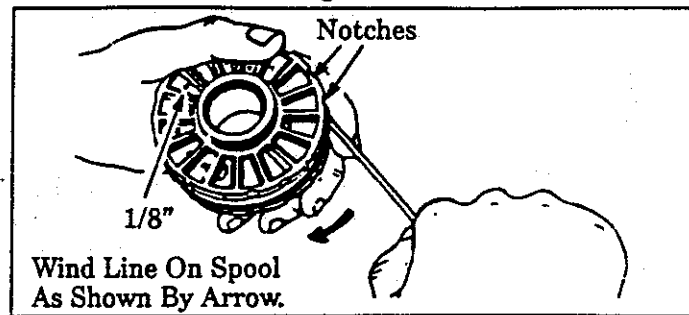

Figure 20
- Insert 1/16" to 1/8" of the end of the Line through one of the holes in the rim of the Spool. Allow no more than 1/8" line to extend beyond the rim to avoid interference with line release action. Figure 20 .
- Wind the Line onto the Spool in the direction shown by the arrow on the Spool and as tightly and evenly as possible so the line will feed properly. Figure 20 .